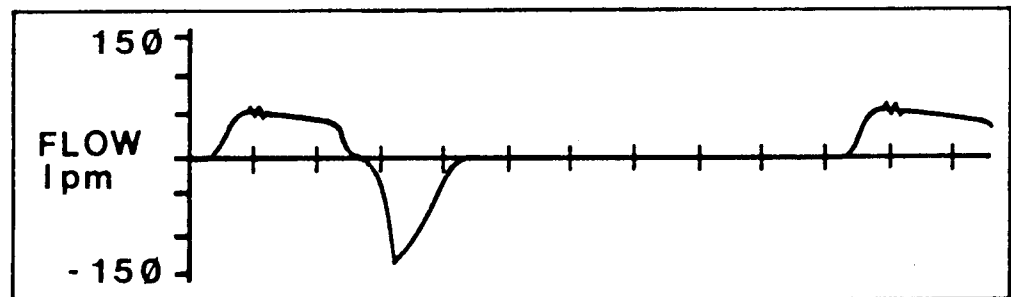

Figure 3.6.7.4-1. Air Flow Waveform Display
4. Press AIR FLOW. The graphic display in Figure 3.6.7.4-1 should appear: